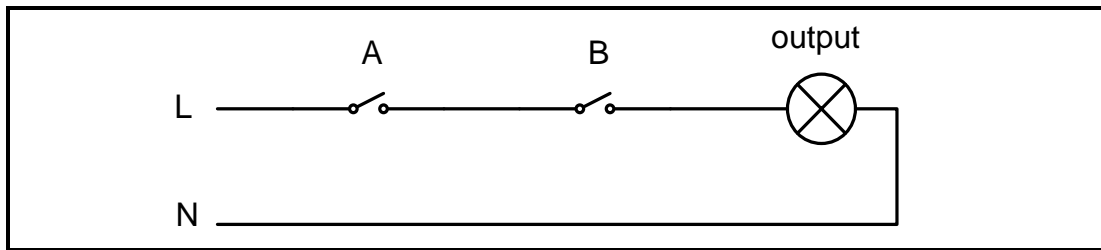

FIGURE 7.11
7.11 Refer to FIGURE 7.11 below of the AND logic function and answer the questions that follow.
- 7.11.1 Draw the logic symbol of the function represented in FIGURE 7.11. (2)